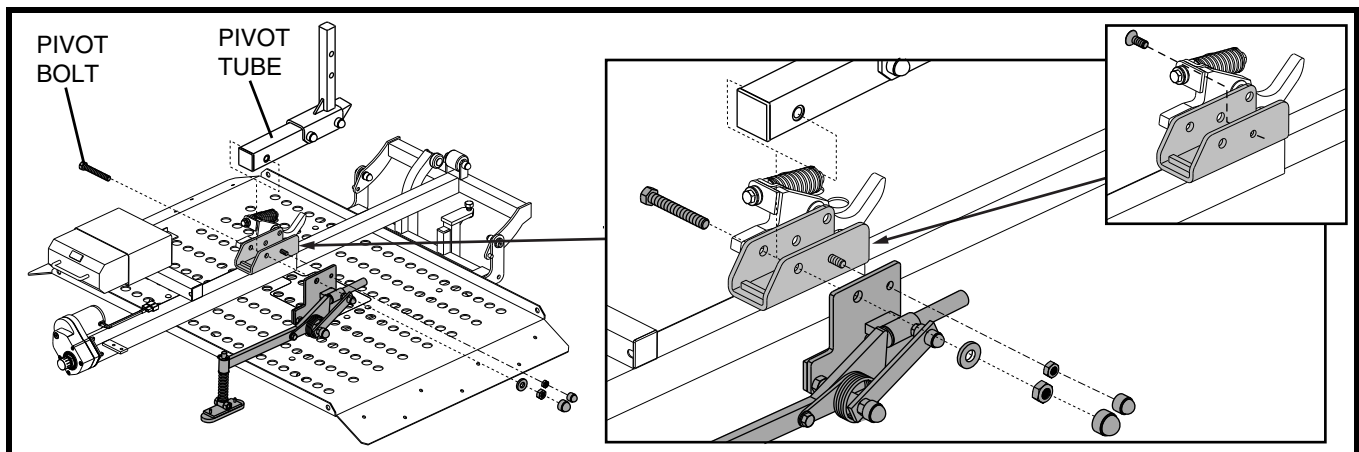

Figure 4. Lock-down Arm Installation
*NOTE: If your lift system is equipped with a permanent threaded stud, removal of the pivot tube and pivot bolt is not necessary for lock-down arm installation. See figure 4.*
2. Apply power to the lift until there is enough clearance to remove the pivot bolt. See figure 4.
4. Remove the pivot tube. See figure 4.